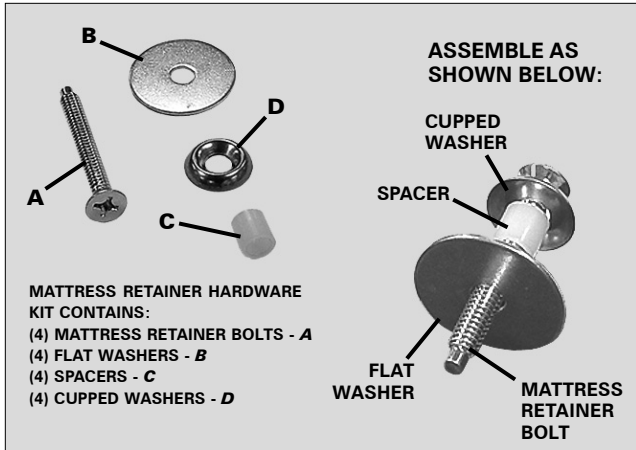

FIGURE 4: Mattress retainer hardware.
a. Install (1) cupped washer, (1) spacer and (1) flat washer on (4) mattress retainer bolts (FIGURE 4).